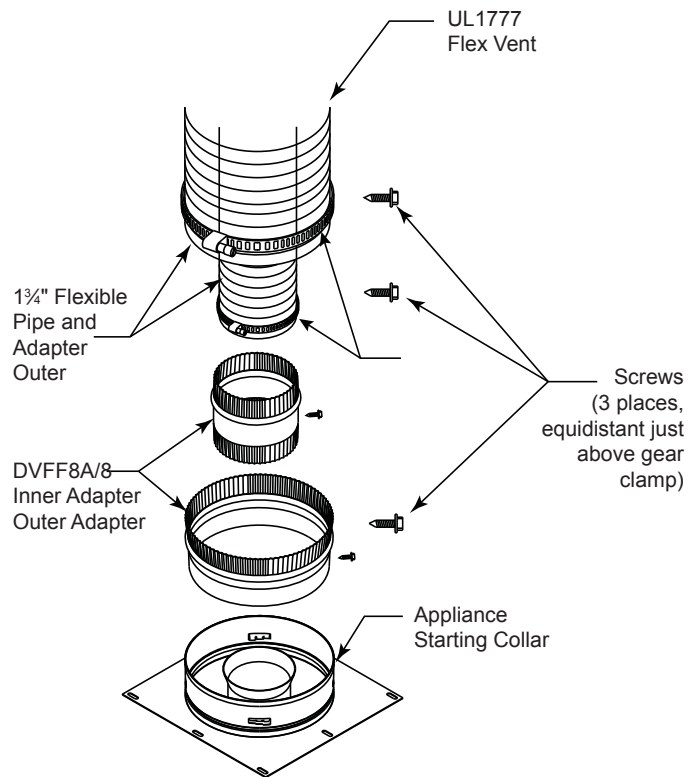

Figure 30 - Typical Appliance Connection
2. The flex adapter starter kit (DVFF8A/8) is used to attach flex venting to the appliance starting collar. It includes 5" inner and 8" outer adapter rings. *Figure 30*
A. Installing the inner flex adapter and pipe. *Figure 30*
B. Installing the outer flex pipe. *Figure 30*